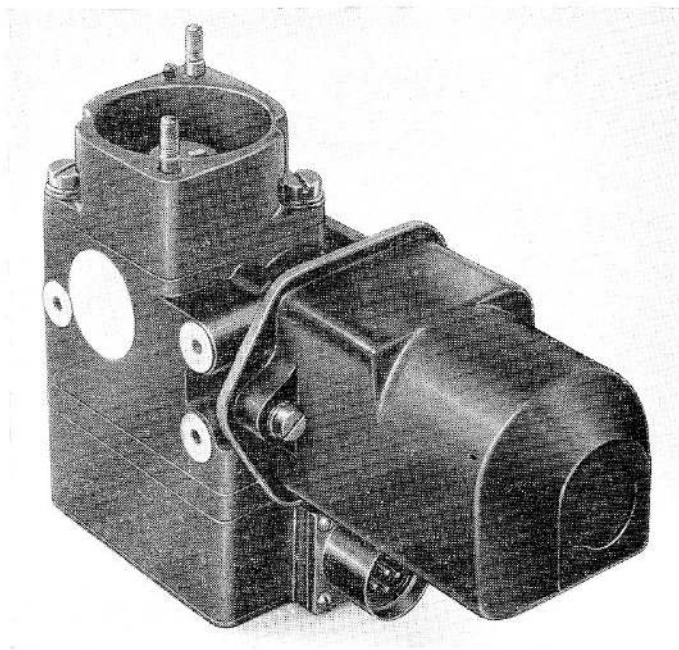

Fig. 1. General view of actuator
1. The rotary actuator English Electric Type 237, Mk. 2 (*fig. 1*), has been designed for the operation of fuel cocks, hydraulic valves, etc., used on aircraft.